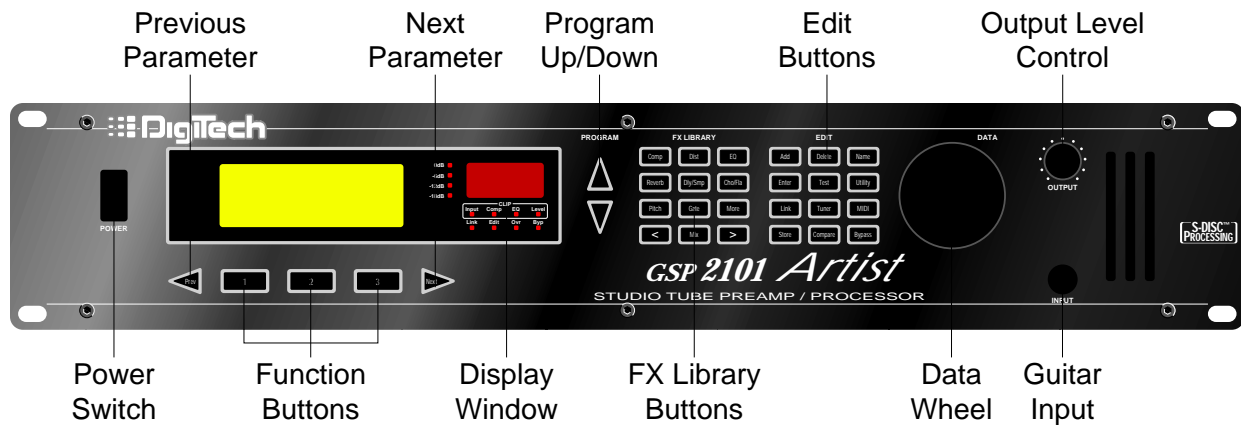

Fig 2-4
**Power Switch** - Lets you to turn On/Off the GSP-2101 Artist (see fig 2-4 on pg. 12).
**Program Buttons/Data Wheel:** The Program [Up/Down] buttons (see fig 2-4) let you select any Program in the 2101 Artist. The Program Up button selects the next Program, while Program Down selects the previous Program.
The FX Library buttons (see fig 2-4 on pg. 12) make the GSP-2101 Artist easier and faster to use. These buttons let you jump to the first Parameter page of each Module used in the Program. From there, you can scroll to the Parameter you want using the Parameter [NEXT] and [PREV] buttons. For example: if a Program uses an algorithm that contains two choruses and one reverb effect, you can jump directly to the first chorus module by pressing the [CHO/FLA] button, and get to the second chorus module by pressing the [CHO/FLA] button again. The [NEXT] button could have taken you to the same location, but the FX Library Buttons made things much quicker.